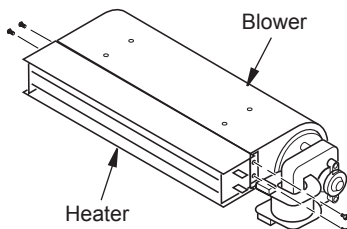

Figure 11 - Removing Heater from Blower
6. Replace blower or heater. Replace screws removed in step 5 (see Figure 11).